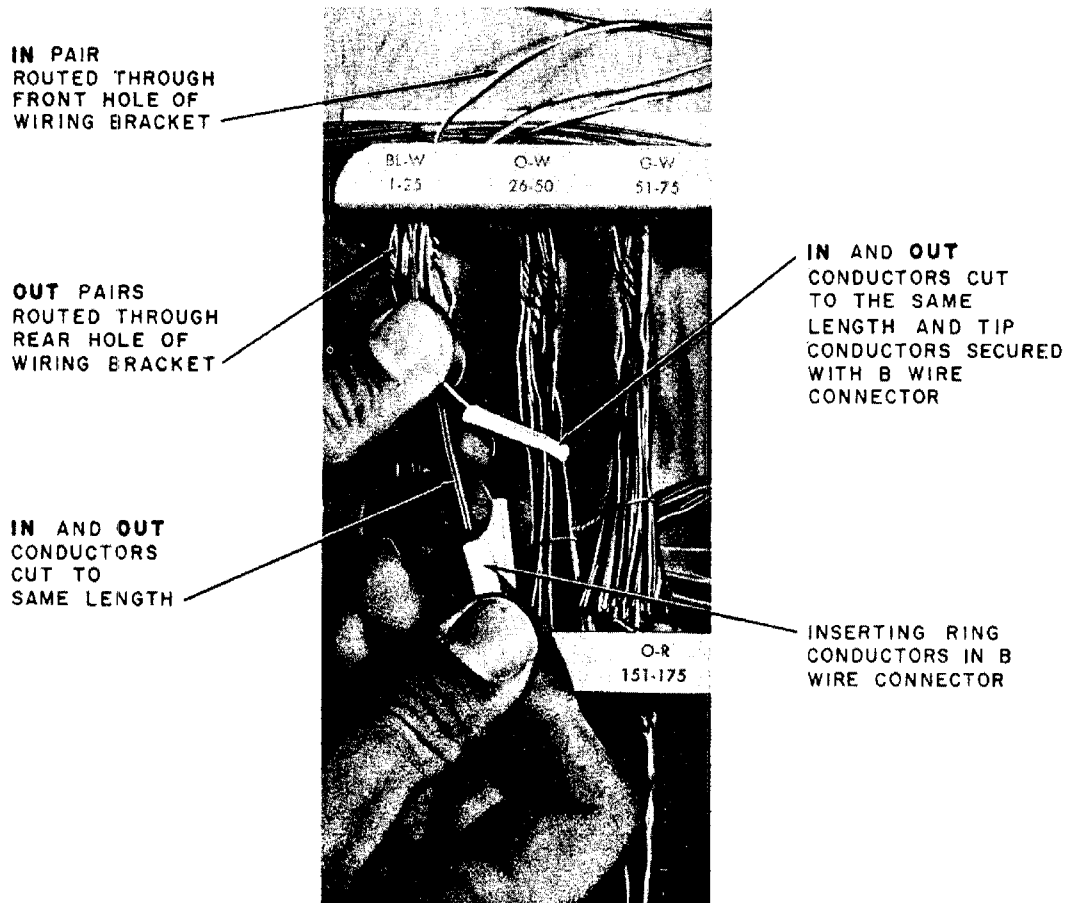

Fig. 11—Connecting *IN* and *OUT* Cable Pair
5.06 Cut the assigned *IN* pair to the same length as the assigned *OUT* pair and connect with a B Wire Connector as shown in Fig. 11. If for any reason the *IN* pair is shorter than the *OUT* pair, piece out the *IN* pair (Part 6). Do not cut the *OUT* pair. Use only a B Connector Presser or Pneumatic Presser for crimping the B Wire Connectors.